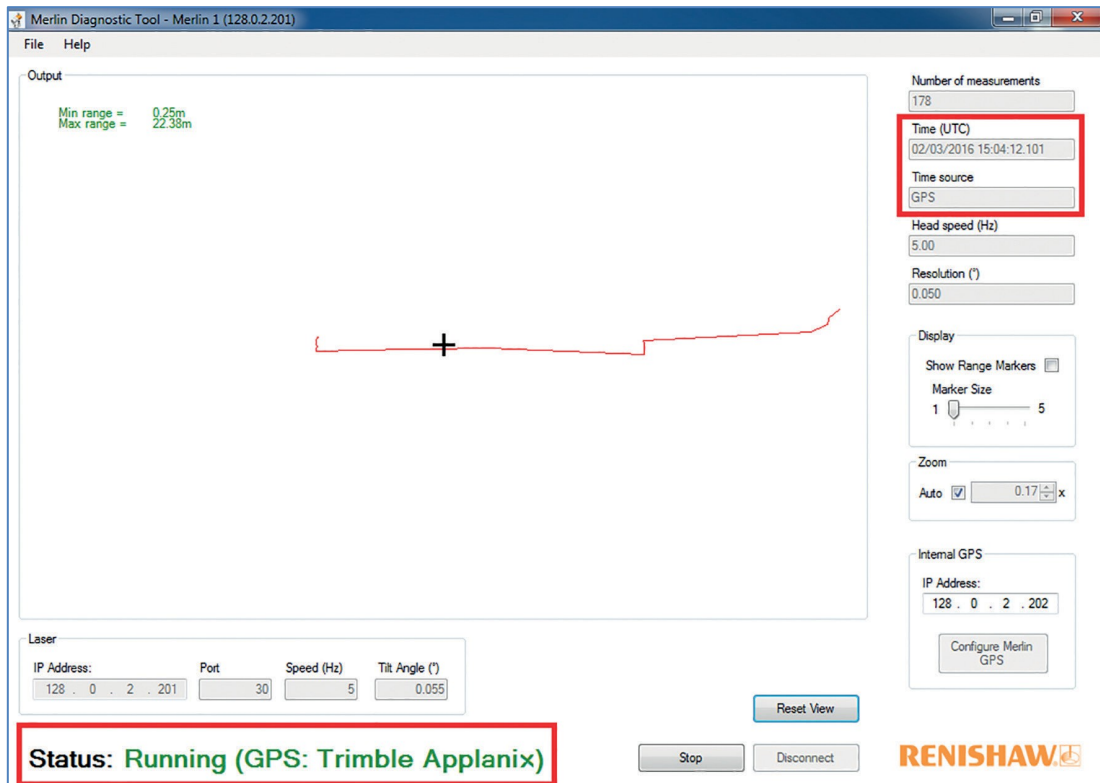

Figure 41 Status: Running (GPS...)
- For survey operations, the only acceptable Status message is **Running (GPS....)**. If the Time source is shown as **GPS**, both a valid PPS and ZDA message are being received. (\* After 'GPS' the selected timing source is indicated, e.g. Trimble Applanix.). See Figure 41.